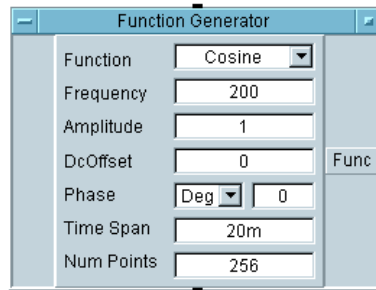

Figure 1-6. Adding a Function Generator Object
2. Move the Function Generator to the center of the work area, and click to place the object. The Function Generator appears as shown in Figure 1-6.